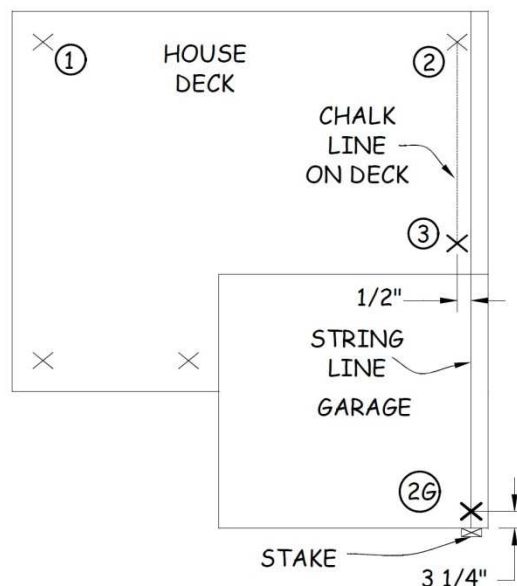

Figure 23-1. Garage Sill Plate Chalk Lines Prior to House Walls.
1. When the house exterior wall plate layout lines have been squared and snapped, refer to Figure 23-1. Tack 8d nails at points 2 and 3 on the house deck.